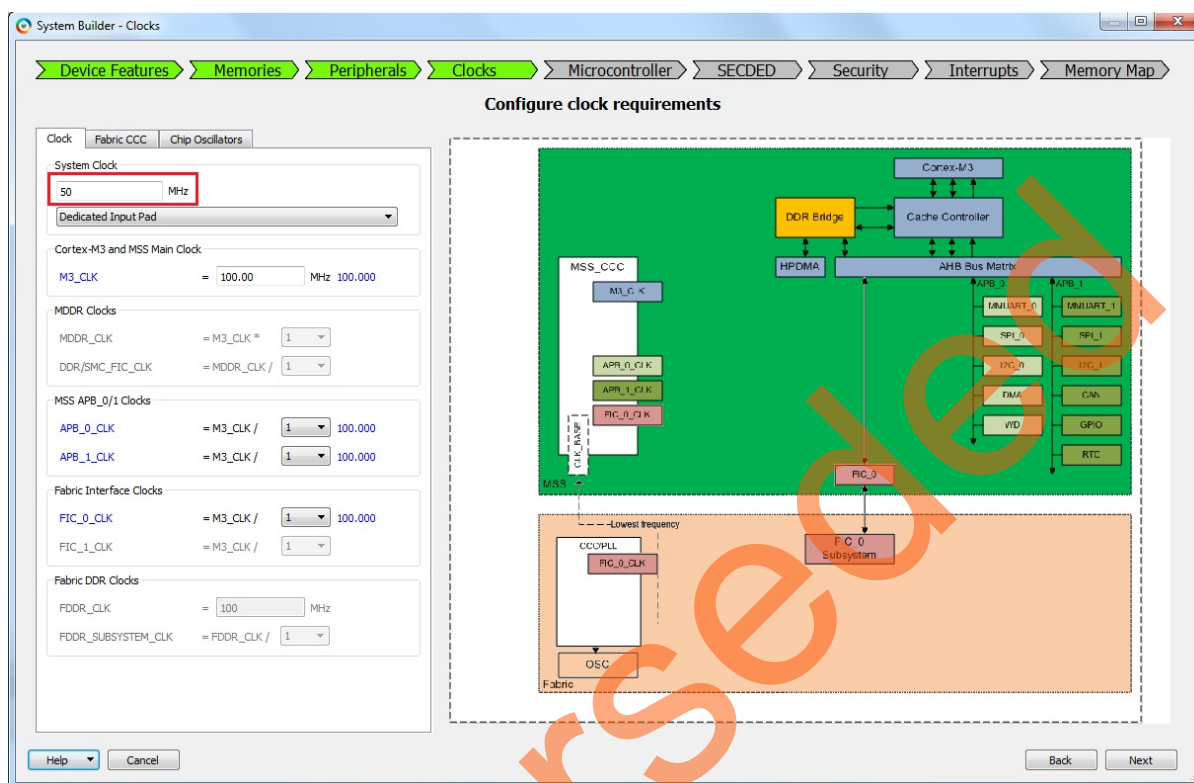

Figure 13 • System Builder Configurator – Clock Page
16. Click **Next**. The **System Builder – Clock** page is displayed, as shown in Figure 13. Change the configuration of **System Clock** from 100 MHz to 50 MHz. The dedicated input pad will be connected to on board 50 MHz oscillator. The M3_CLK is configured to 100 MHz by default.